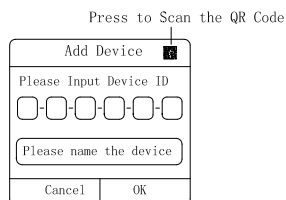

Fig.1
- a. Add switches: in the switches list, click the icon at the top-right corner, (as shown in Fig. 1).